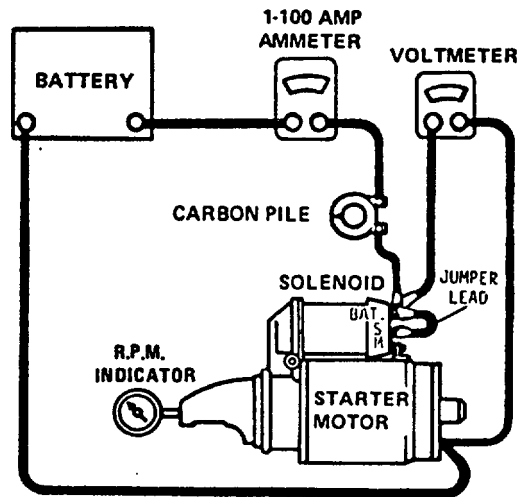

Figure 13-10. No-Load Test Circuit (Code B)
- (1) Connect the starter assembly as shown in figure 13-10
- (2) Use power supply to obtain